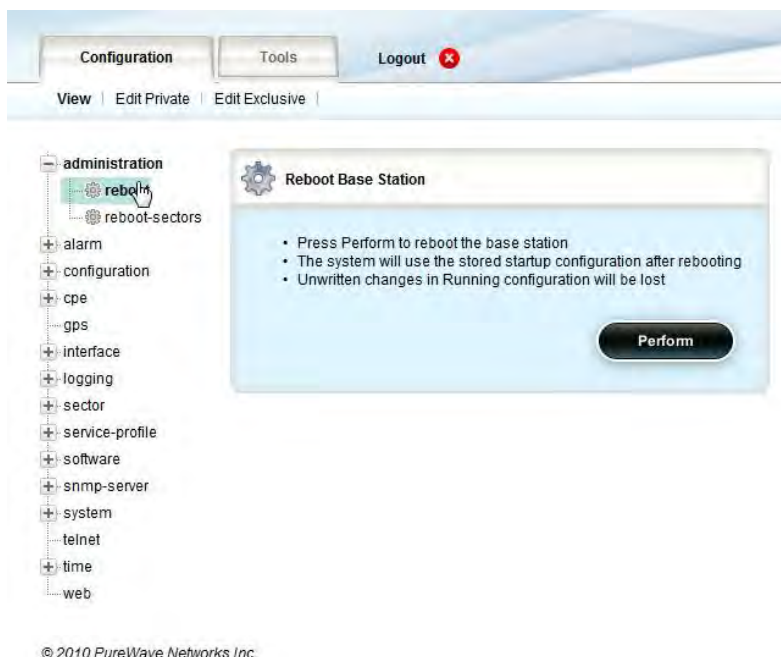

Figure 20 Reboot Base Station
1. At the Main Web GUI Interface Screen, select the *Configuration* Tab, select the *administration* Main Menu option and then **reboot** Main Menu Sub-Element. The User will have to click on the **Perform** Command Menu Option to reboot the entire Base Station (Figure 20).